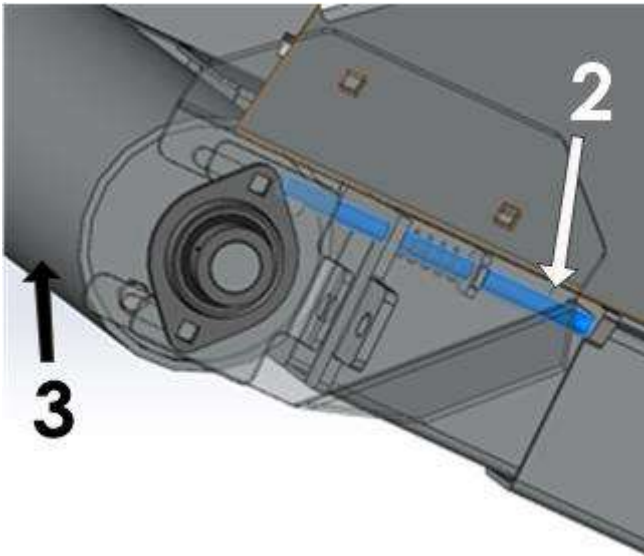

Figure 17
- When the conveyor belt is folded, check if the bolt (2) has stopped the cylinder rotation (3, Figure 17). This prevents the rubber band from detaching from the conveyor belt.
- Pull the rubber band over the cylinder (3) and into the space between the conveyor belt and the splitting section.
- Check if the interlock (4) is latched in the transverse support.